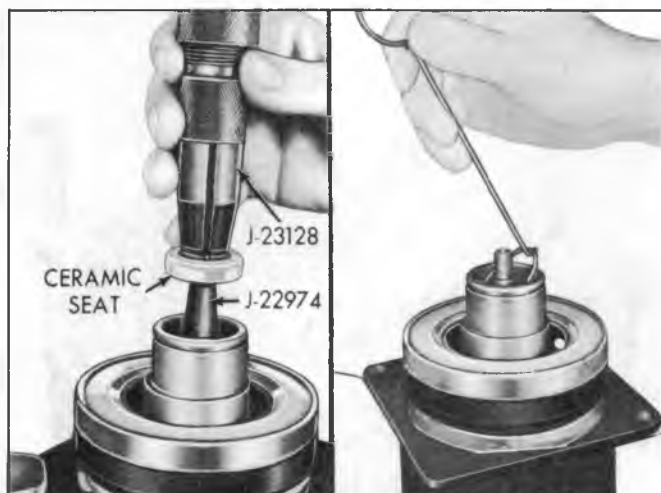

Fig. 11—Removing Seal Seat and "O" Ring
4. Place Tool J-22974 over the end of the shaft to prevent chipping the ceramic seat. Fully engage the knurled tangs of Tool J-23128 into the recessed portion of the seal seat by turning the handle clockwise. Lift the seat from the compressor with a rotary motion (fig. 11).
6. Remove the seal seat "O" ring from the compressor neck using Tool J-9553 (fig. 11).